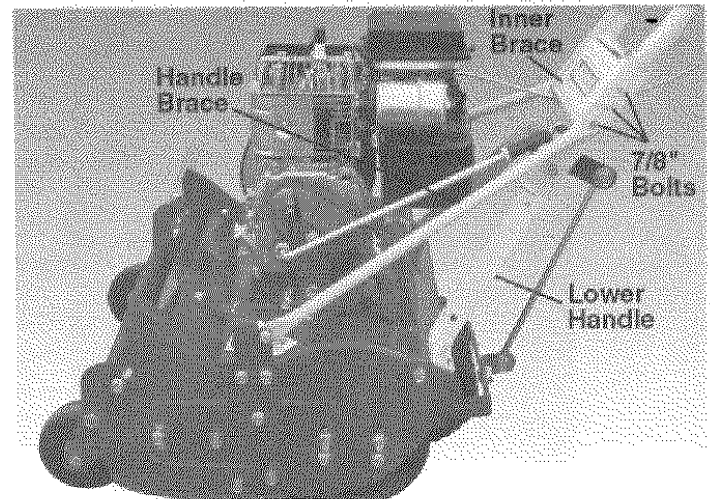

FIGURE 2: Tighten all six handle bolts and nuts **SECURELY**.
- E. Install one nut on each bolt, then tighten the nuts **SECURELY** (see Figure 2).